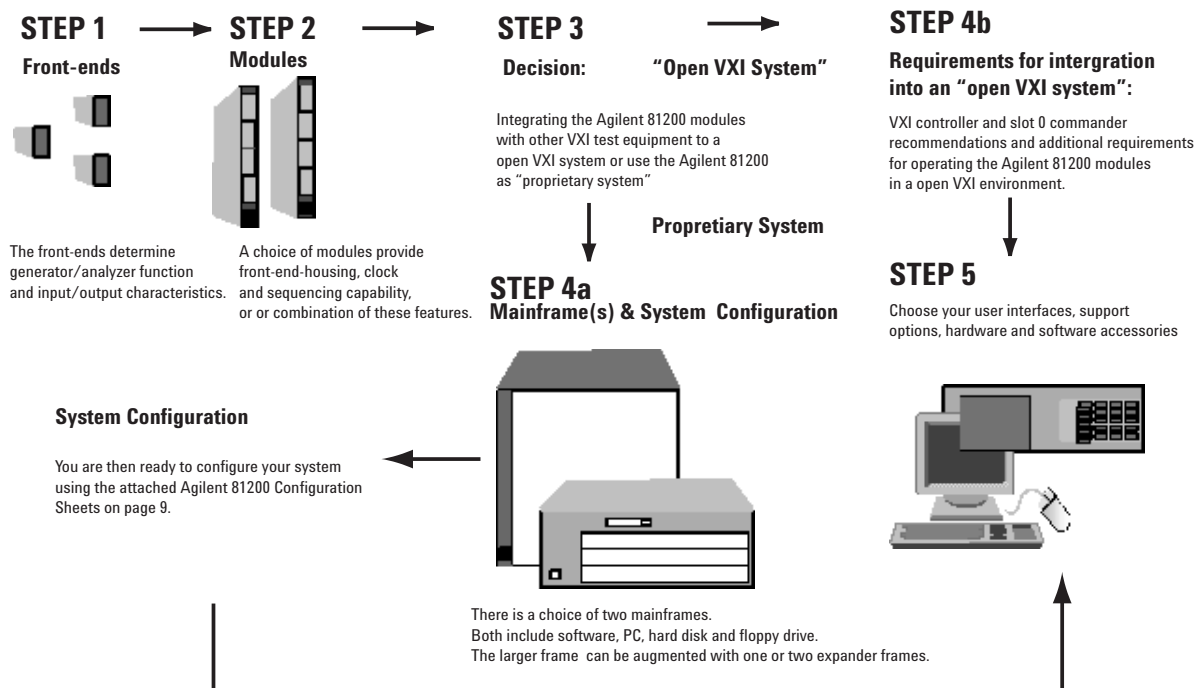

Figure 1: Configuring an Agilent 81200 Data Generator/Analyzer Platform
a) Using the 81200 as a "proprietary system" means that the 81200 will not be combined with other VXI modules in a standard VXI system. It can however, be controlled by a LAN or a GPIB interface. If a "proprietary system" is desired, follow steps 1-3, 4a and 5 to configure your system (figure 1).
b) If Agilent 81200 modules are combined with other VXI modules then an "open VXI system" (the standard VXI system), is achieved. For this configuration, please follow steps 1-3, 4b and 5 (figure 1).